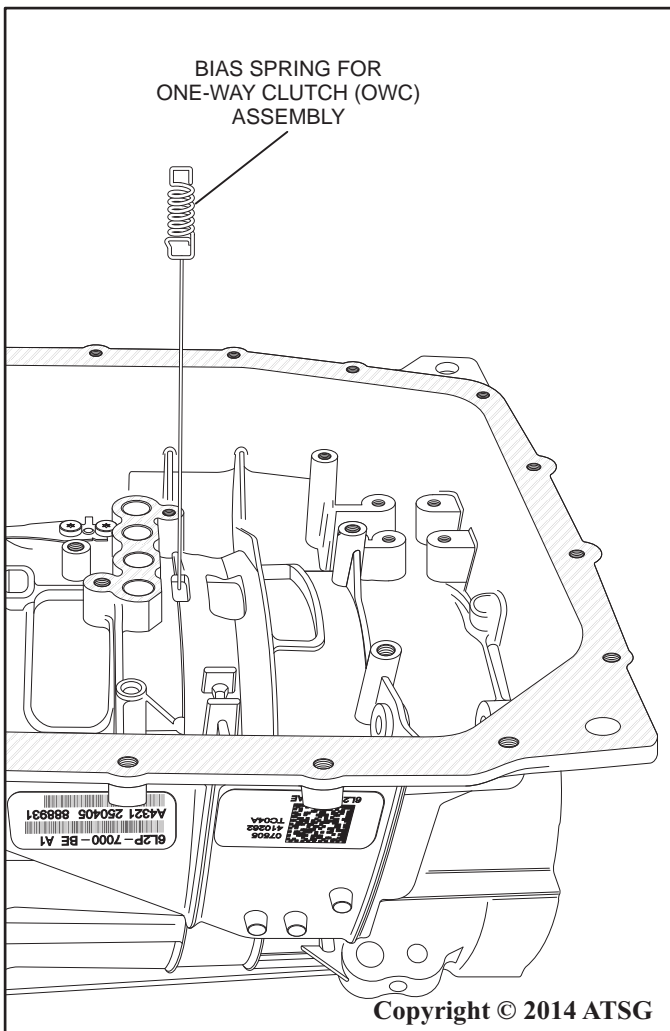

Figure 51
31. Using a small screwdriver, carefully remove the bias spring from the case as shown in Figure 51.